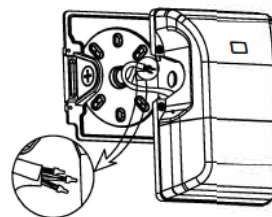

Fig. 5
6. Connect wiring connections and ensure positive grounding (fig. 5)